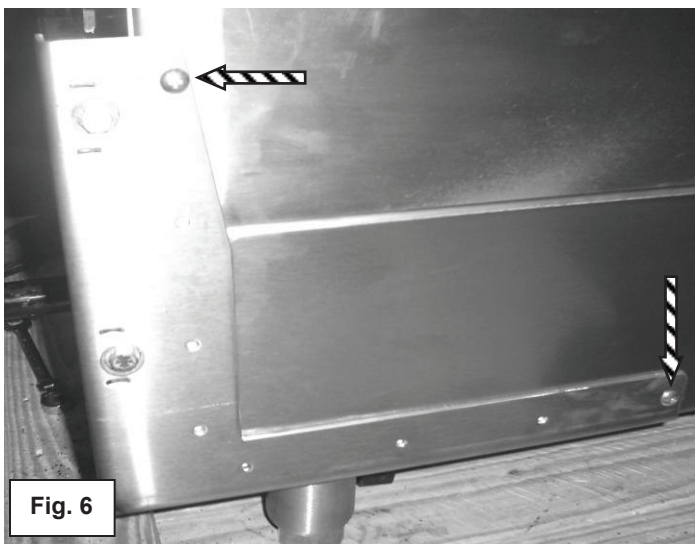

Fig. 6
6. Using the side mounting bracket as a guide, drill holes into the griddle chassis with the 5/32" bits only at the highest hole and the hole nearest the front of the unit on the side bracket. See Fig. 5 and Fig 6. Repeat procedure for opposite side of bracket system assembly.
7. Insert and tighten 10-24 x ½ screws into the holes that were drilled in step 6. Repeat procedure for opposite side of bracket system assembly. See Fig. 6.